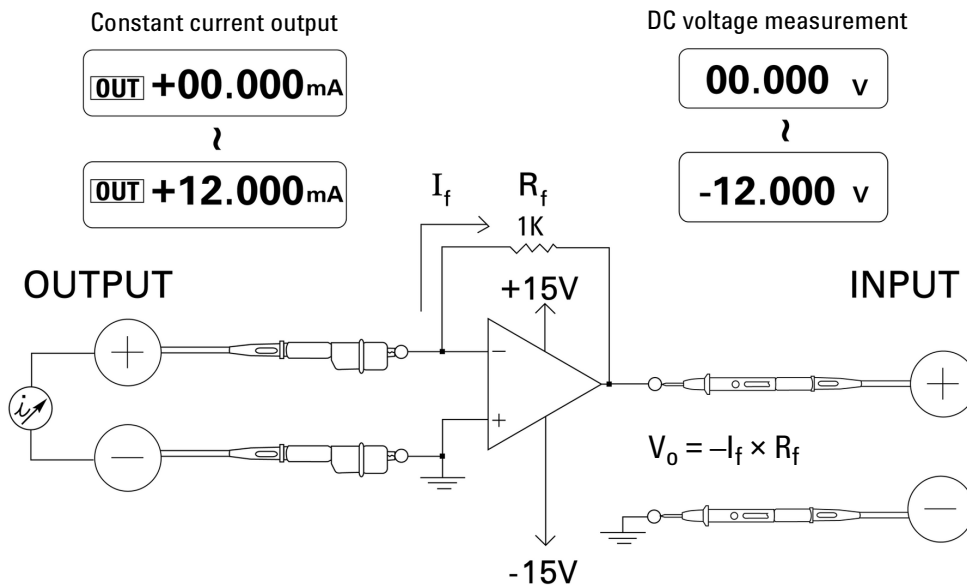

Figure 5-13 Current-to-voltage converter
An ideal operational amplifier can act as a current-to-voltage converter. In Figure 5-13, the ideal operational amplifier maintains its inverting input terminal at earth potential and forces any input current to flow through the feedback resistor. Thus $I_{in} = I_f$ and $V_o = -I_f \times R_f$. Notice that the circuit provides the basis for an ideal current measurement; it introduces zero voltage drop into the measurement circuit and the effective input impedance of the circuit as measured directly at the inverting input terminal is zero.
- 5 Connect the operational amplifier as shown in Figure 5-13.